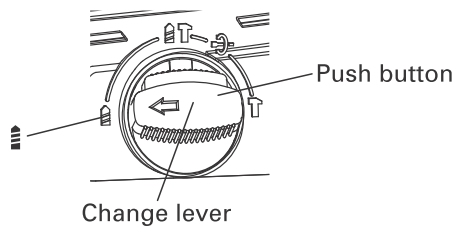

Fig.7
■ This rotary hammer can be set to rotation only mode by pressing the push button and turning the change lever to  mark. (Fig. 7)